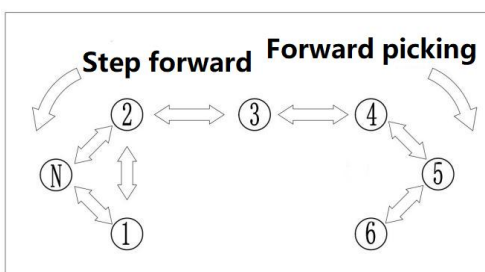
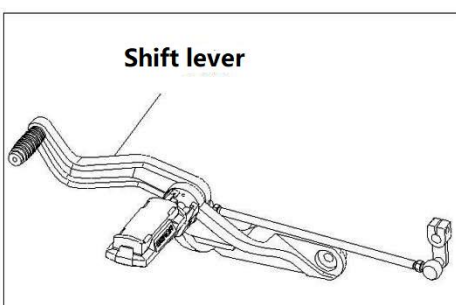

Fig14 Shift gear position
Fig15 Shift gear
5.4.1 Shift gear operation (Fig14、 Fig15)